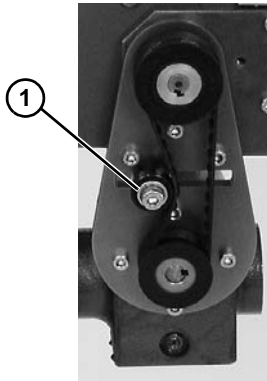

Figure 13
2. Loosen tensioner (**Figure 13, item 1**).